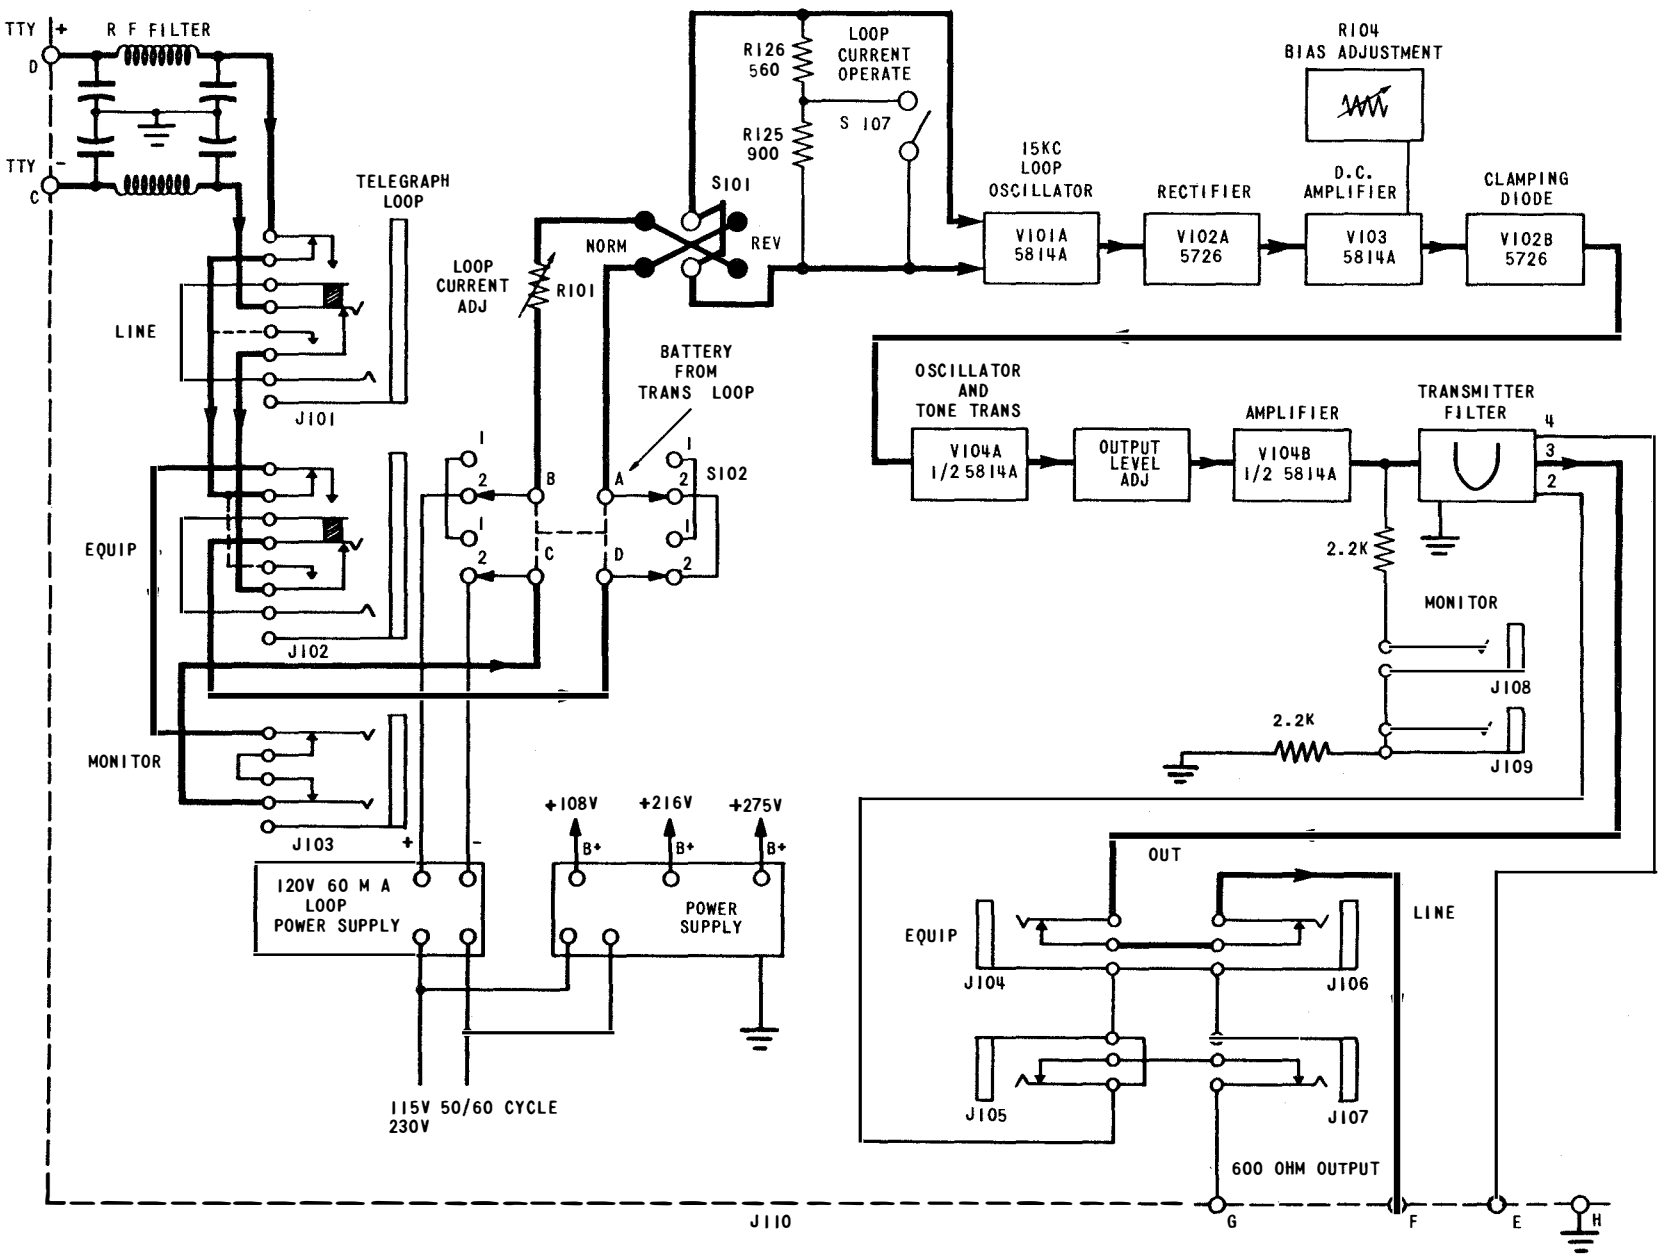

Figure 2-3. Block Diagram of Telegraph Carrier Transmitters T-371A/FCC-3 through T-382A/FCC-3
a. GENERAL. - Figure 2-3 shows a block diagram of the principal circuits of the telegraph carrier transmitter. The telegraph loop circuit, which is brought into the transmitter through the TELEGRAPH LOOP LINE and TELEGRAPH LOOP EQUIP jacks J101 and J102, has the polarity markings TTY(+) and TTY(-) on terminals D and C, respectively, when the loop is in the BATTERY FROM EQUIP condition. Either an internal loop supply of 120 volts at 0.060 amp or an external loop supply can be chosen by means of the BATTERY FROM LOOP EQUIP switch, S102. Special circuits are used in the loop to keep it ungrounded for DC potentials; but grounded by means of an RF filter to eliminate conducted (150 kc to 20 mc) and radiated (14 kc to 400 mc) RF interference from telegraph loop lines or cables. This RF filter prevents the harmonics of the 15 kc loop oscillator from being conducted out on the loop circuit. The direction